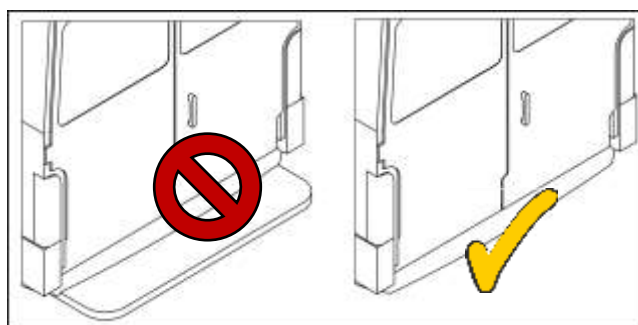

Fig. 9
- If the vehicle has a bumper with an integrated step, replace it with a bumper without a step (see Fig. 9).